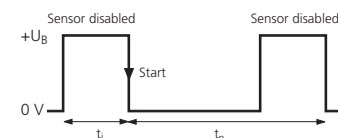

Fig.3: External synchronization signal
- Apply a square-wave signal to the sync-input with pulse width  $t_i$  and repetition rate  $t_p$  (Fig.3 and technical data).